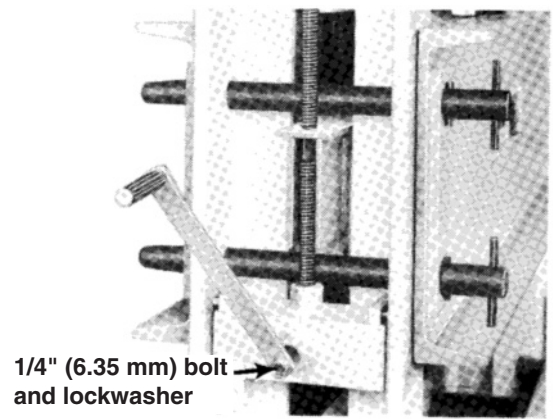

FIGURE 6
8. See Figure 6. Install the crank handle on to the left side of the press. A 1/4 inch (6.35 mm) bolt and lockwasher are included.